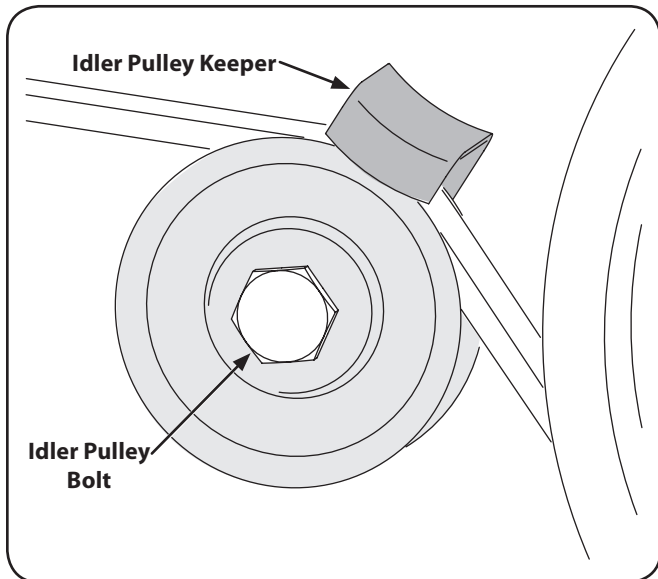

Figure 5-4
7. Remove the idler pulley bolt and move the belt from under the idler pulley keeper. See Figure 5-4.
NOTE: Upon reassembly, make certain that the idler pulley keeper is as shown in Figure 5-4. Take note of the notch on the bottom of the keeper and the alignment when reassembling with the replacement belt.